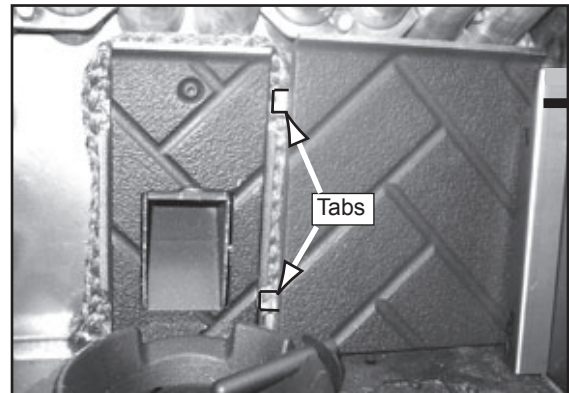

Figure 21.4
1. Place right brick in behind the right bracket, and then slide to the left so the tabs are behind the center brick. **Figure 21.4.**